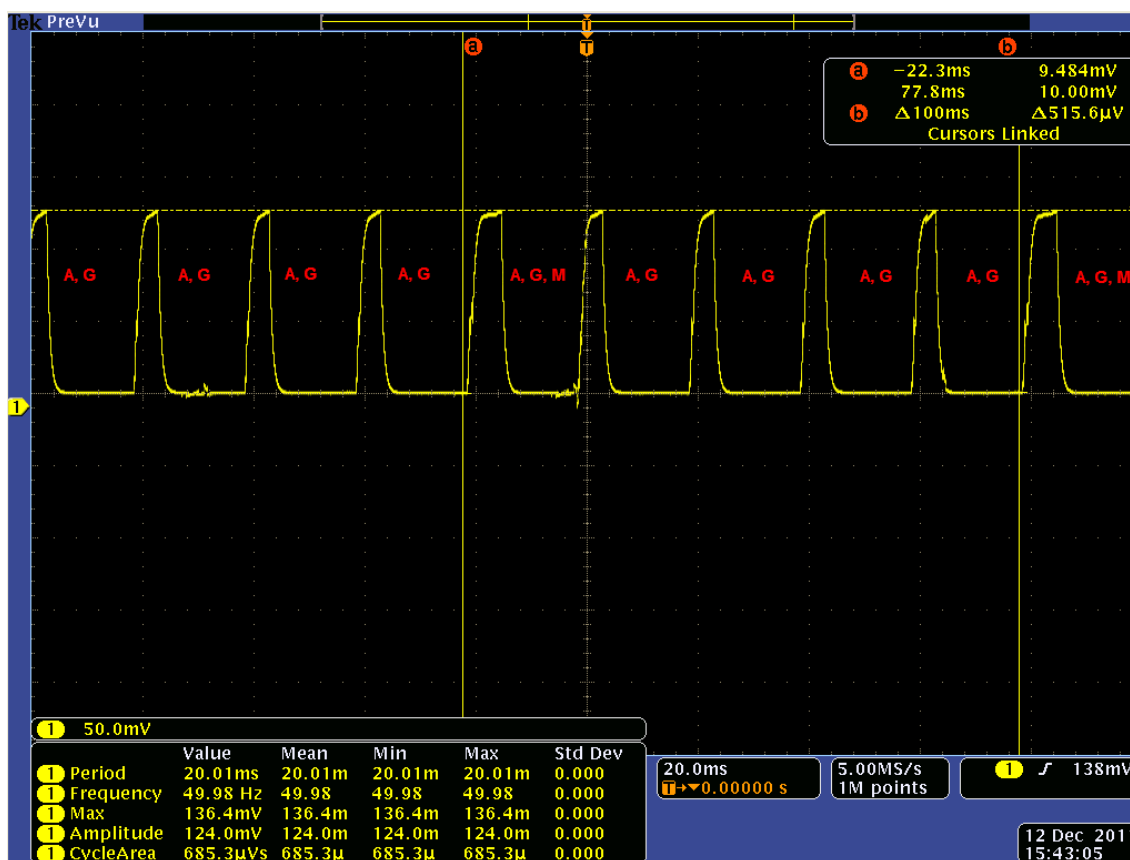

Figure 9. MSP430 Voltage Measurement
This section covers the power consumption of the sensor platform and the MSP430 requirements. The voltage across a shunt resistor (26.63 Ω) connected to the V_{CC} of the MSP430F5xx can be seen in Figure 9. The voltage measurements were taken with the USB module disabled and low-power-mode 3 enabled when the MSP430F5xx was neither reading the sensors nor calculating the DCM algorithm. The MSP430F5xx consumes $\sim 5 \mu A$ in low-power-mode 3 and $\sim 5.6 \text{ mA}$ in active mode. The AHRS board requires being battery powered when the transmission of the Euler angles is via BLE. The cycle area of the voltage is 685.3 μV s, where each cycle is 20 ms. Therefore, the average voltage is 685.3 μV s / 20ms = 34.265 mV. Using Equation 2, the average current consumption of the MSP430F5xx is 34.265 mV / 26.63 $\Omega \sim 1.28 \text{ mA}$.
Figure 9 shows the reading the motion sensors at different frequencies; the magnetometer (M) is read at a 10 Hz rate, while the accelerometer (A) and gyroscope (G) are read at 50 Hz. This figure shows the MSP430F5xx using ~30% of the CPU. The accuracy of the MSP430 AHRS board is TBD. Table 2 includes the current consumption measurements for the different ICs in the AHRS board.